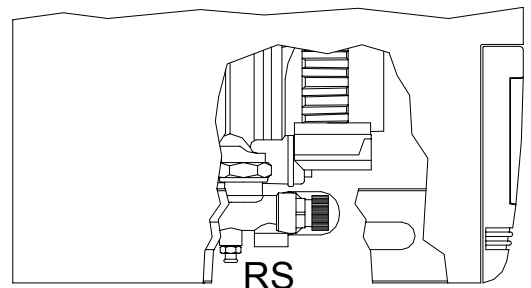

Fig. 4
- turn selector switch 1 to the «off» position (see fig. 1 pag. 9), insert a gauge into the pressure point (see fig. 4 pag. 12; pos. no. 4), turn on the boiler and check the minimum and maximum calibration pressures of the modulator in accordance with those stated on the gas plate; (to check the maximum modulation pressure of the modulator, turn on a hot water tap and check that the maximum pressure is equal to that stated on the plate; to check the minimum, undo one wire from the modulator coil and check on the gauge that the minimum pressure is equal to that stated on the plate; if the maximum pressure is not the same as stated on the plate, calibrate the modulator again;
- turn the system drain tap RS (see fig. 4 pag. 9) and use a container to collect the water that runs out;